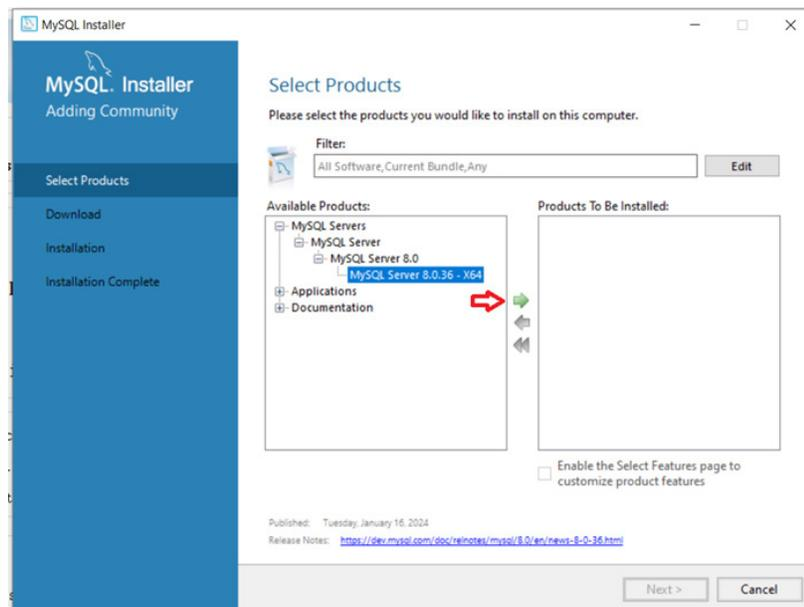

Figure A3
- Select MySQL Servers > MySQL Server > MySQL Server 8.xxxxx (the installer will show the latest version being installed), and click on the green right-facing arrow to add it to the "Products to be Installed" window. (Figure A3)